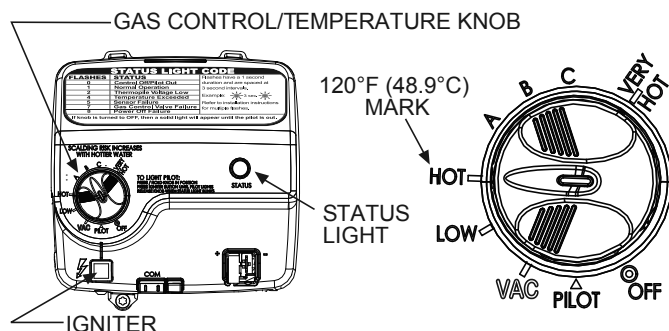

FIGURE 17A.
**HOTTER WATER CAN SCALD:** Water heaters are intended to produce hot water. Water heated to a temperature which will satisfy space heating, clothes washing, dish washing, and other sanitizing needs can scald and permanently injure you upon contact. Some people are more likely to be permanently injured by hot water than others. These include the elderly, children, the infirm, or physically/mentally handicapped. If anyone using hot water in your home fits into one of these groups or if there is a local code or provincial law requiring a certain temperature water at the hot water tap, then you must take special precautions. In addition to using the lowest possible temperature setting that satisfies your hot water needs, a means such as a mixing valve should be used at the hot water taps used by these people or at the water heater. Mixing valves are available at plumbing supply or hardware stores. See Figure 12. Follow manufacturer's instructions for installation of the valves. Before changing the factory setting on the thermostat, see Figure 17A. Using the lowest hot water temperature that meets your needs will also provide the most energy efficient operation of the water heater.
The thermostat is adjusted to the pilot position when it is shipped from the factory. Water temperature can be regulated by moving the temperature dial to the preferred setting. The preferred starting point is 120°F (48.9°C) at the "HOT" setting. Align the knob with the desired water temperature as shown in Figure 17A. There is a hot water scald potential if the thermostat is set too high.